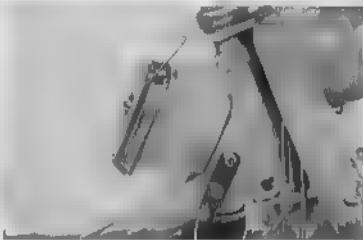

Fig. 4.70 Removing air cleaner (C90, CT 90)
Unscrew the cap nut ①, remove the cover ② and pull out the cleaner element (Fig. 4.70)